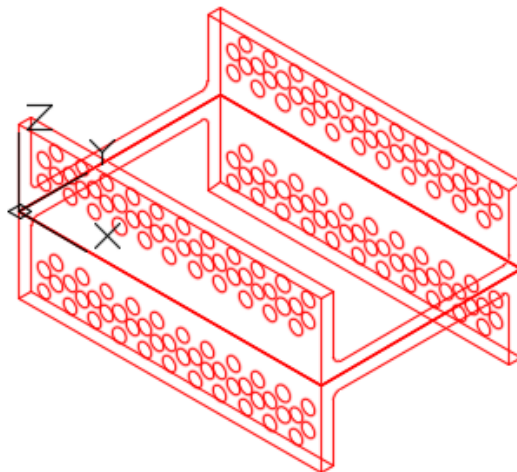

Figure Step 4A
Step 4 The completed mirrored model is shown in the figure. (Figure Step 4A and 4B)